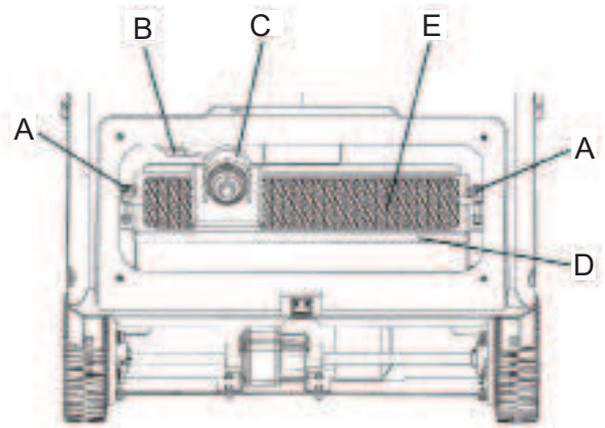
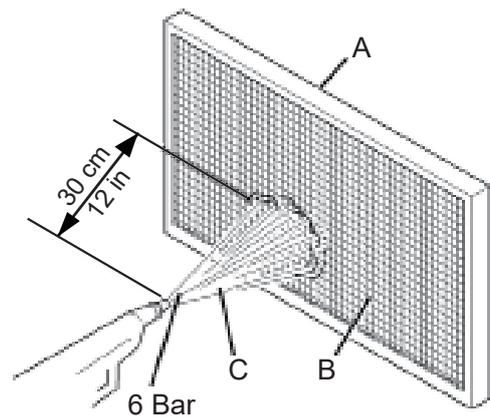

Figure9
Figure10
- 1) Drive the machine on a level floor and release the pedal (2) and stop the machine.
- 3) Disengage the hook (29) by pulling its lower end.
- 4) Remove the hopper (28) by using the handle (30) and by using hand and by disengaging it from the inner guides.
- 5) Unscrew the knobs (37) and remove the filter compartment cover (36).
- 6) Loosen the knobs (A, Fig.9).
- 7) Disconnect the connector (B, Fig.9) from the filter shaker motor (C).
- 8) Remove the dust filter fastening frame (D, Fig.9).
- 9) Remove the dust filter (E, Fig. 9).
- 10) In an outdoor area, clean the filter by shaking it on a level and clean surface, tapping the side (A, Fig. 10) opposite to the wire gauze (B).
Complete the cleaning procedure by using compressed air (C, Fig. 10) at maximum 6 Bar, blowing only from the side of the wire gauze (B), at a minimum distance of 11.8 in (30 cm).
- 13) Clean the rubber gasket (A, Fig.10) of the cover (36) and check it for integrity and efficiency; if necessary replace it.
-Install the filter (E, Fig. 9) with the wire gauze (B, Fig. 10) facing upwards.